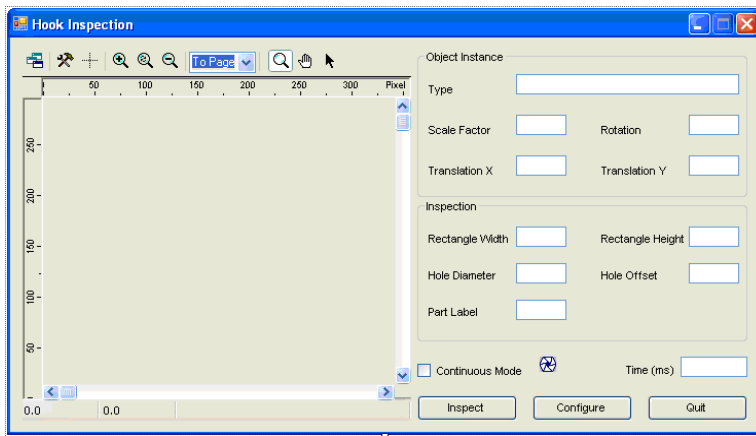

Figure 36 VB .NET Form for Tutorial 5
1. On your application form, add one text box. Name it **LabelText** and add an appropriate label. Set up your form as illustrated in Figure 36.